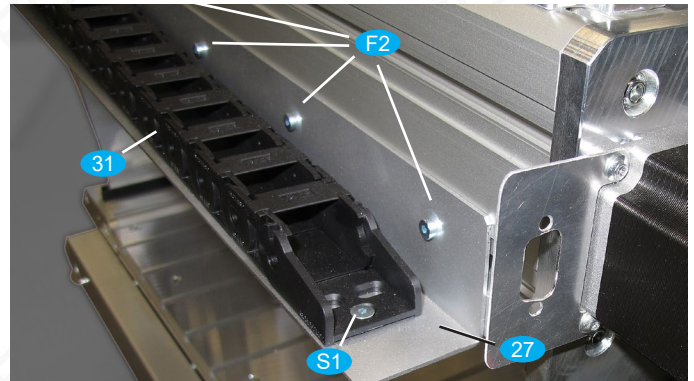

Fig. 35: Mounting the drag chain angle 27 on the back of the guide profile for the X axis
- Attach the drag chain angle 27 to the back of the guide profile 12 using flat-head screws F2 and hammer nuts H1, as shown in Figs. 35 and 36.
- Hang the X drag chain in the connection kit and fasten the free end to the drag chain bracket with countersunk screws S1, washers 58, nuts 59 and the second part of the connection kit, as shown in Fig. 35.